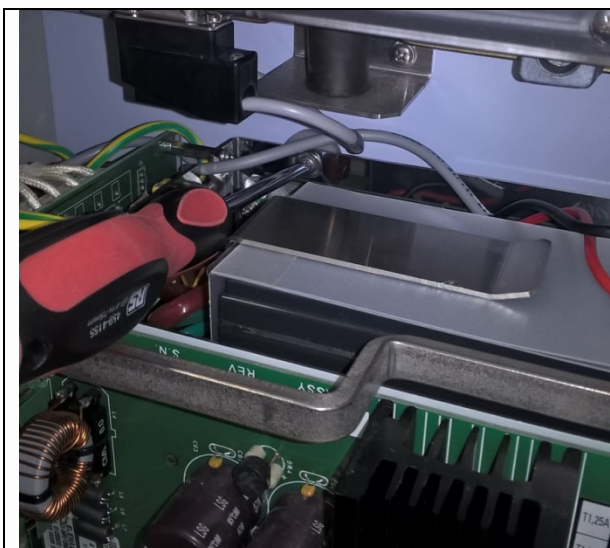
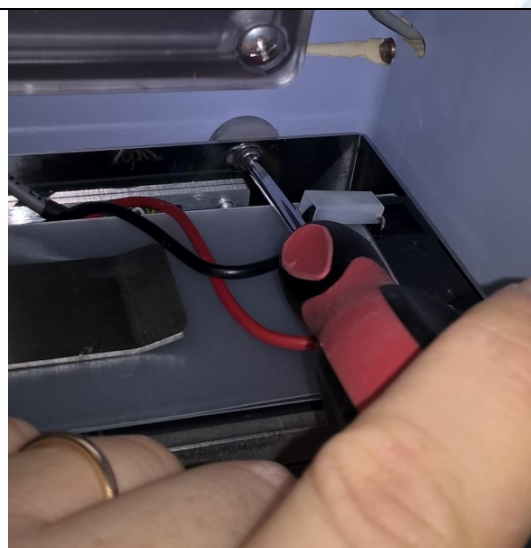

Fig. 24
Fig. 25
25. Fix the PSU to the machine chassis using the two (2) M4x12 screws previously placed in Step 22 (**Fig. 24 & Fig. 25**).